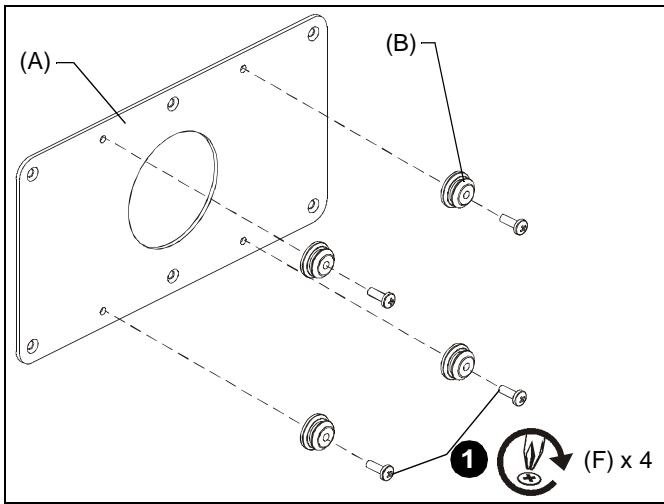

Figure 1
1. Assemble four mounting buttons (B) to interface bracket (A) using four M4 x 12mm Phillips pan head screws (F). (See Figure 1)